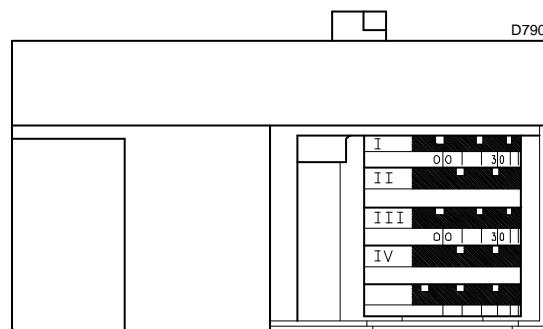
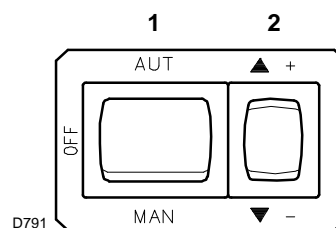
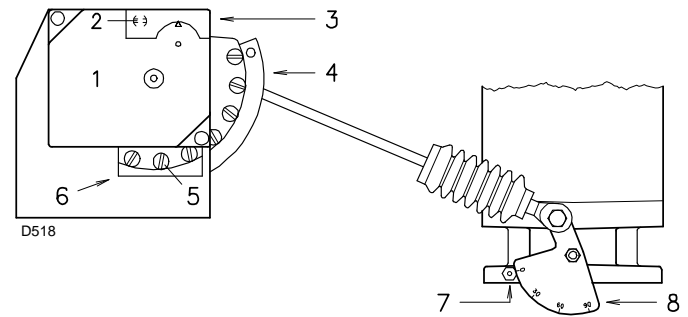

Fig. 25
Fig. 26
Fig. 28
The servomotor (Fig. 25) provides simultaneous adjustment for the air damper, by means of the variable profile cam, and the gas butterfly valve.
Switch off the remote controls and place the switch 1)(Fig. 26) to "MAN" position.
Press button 2)(Fig. 26 on page 23) “output reduction”, (▼ -) and keep it pressed until the servomotor has closed the air damper and the gas butterfly valve at 20° (adjustment made in the factory).
- If it is necessary to reduce it, reduce slightly the angle of cam III (Fig. 25 on page 23) with small, regular movements, i.e. bring it from an angle of 20° to 18° - 16°....
- If it is necessary to increase it, press slightly button 2)(Fig. 26 on page 23) “output increase” (▲ +) (open by 10-15° the gas butterfly valve), increase the cam angle III (Fig. 25 on page 23) with small, regular movements, i.e. bring it from an angle of 20° to 22° - 24°....
Progressively adjust the starting profile of cam 4)(Fig. 28) by turning the cam screws visible through the access opening 6). It is preferable not to turn the first screw since this is used to set the air damper to its fully closed position.
Key (Fig. 28)
In the description above, the burner was left switched on, working at MIN output. Now press the button 2) (Fig. 26 on page 23) “output increase” (▲ +) and keep it pressed until the servomotor has opened the air damper and the gas butterfly valve at 90°.
A rough indication can be obtained from Tab. H on page 19; just read the gas pressure on the pressure gauge of Fig. 25 on page 23 and follow the instructions at page 19.
Progressively adjust the end profile of cam 4)(Fig. 28) by turning the cam screws visible through the access opening 6).
Slightly press the button 2)(Fig. 26 on page 23) "output increase" (▲ +) so that a new screw 5)(Fig. 28) appears inside the opening 6)(Fig. 28); adjust it until optimal combustion is achieved. Proceed in the same way with the other screws.
Switch the burner off with the switch 1)(Fig. 26 on page 23), position OFF. Release the variable profile cam by putting the servomotor slot 2) (Fig. 28) in a vertical position and check more than once, rotating the cam forward and backward by hand, that the movement is soft and smooth, without sticking.